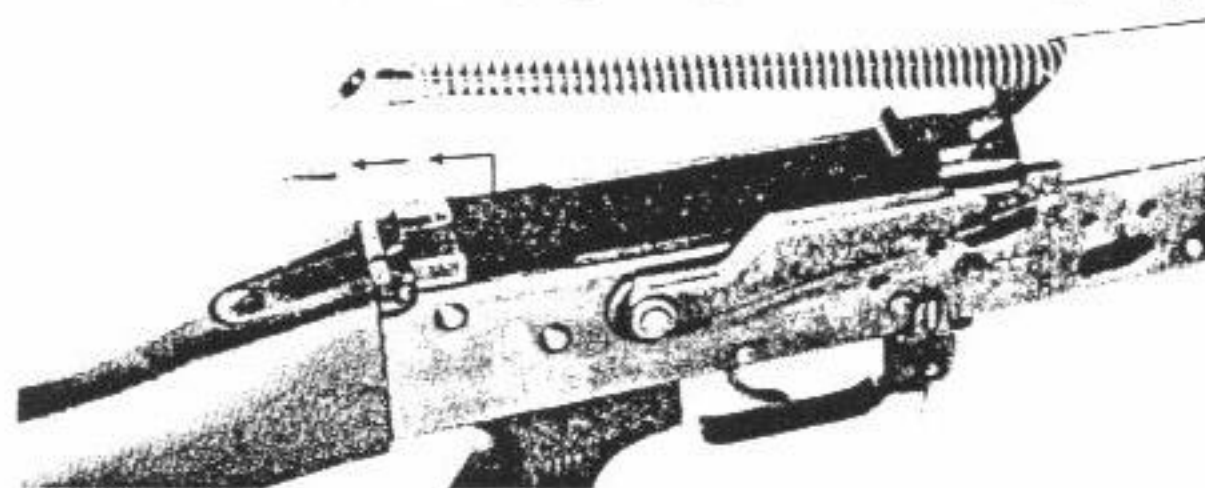

Figure 13
4. Remove the action return spring retaining block by pushing forward to clear the receiver slot and lifting up. Once the action spring retaining block has been released, draw the action return spring assembly to the rear and remove. (See Fig. 13.)